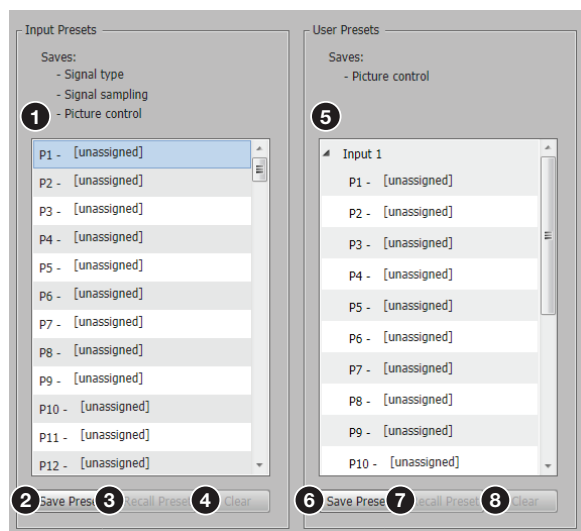

Figure 58. Input and User Presets Panel
1. From the Input Presets list (see figure 58, ❶), select the desired preset.
2. Click the **Save Preset** button (❷). If the selected preset already has stored information on it, the Presets dialog box opens. Click the **Overwrite** button to erase the previous data and save the new settings. Click the **Cancel** button to return to the Image Settings page.
1. From the User Presets list (see figure 58, 5 on page 77), select the desired preset.